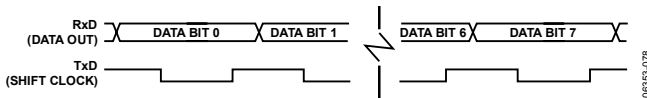

Figure 97. 8-Bit Shift Register Mode
Reception is initiated when the receive enable bit (REN) is 1 and the receive interrupt bit (RI) is 0. When RI is cleared, the data is clocked into the RxD line, and the clock pulses are output from the TxD line as shown in Figure 97.